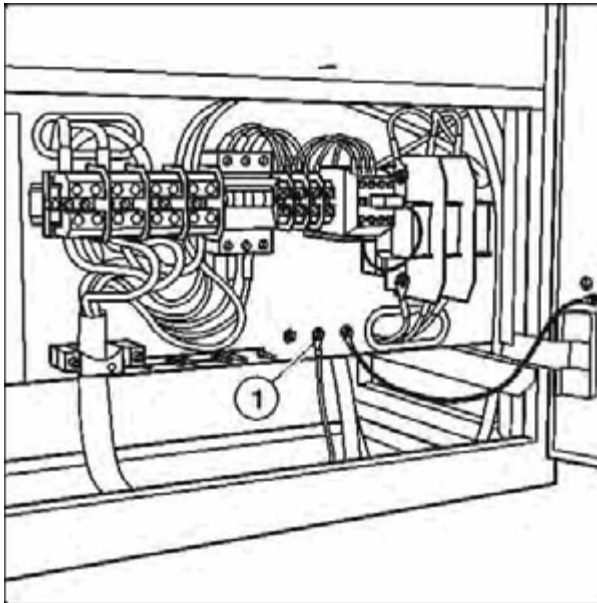

Fig. 53: Ground wire connection
- Connect the ground wires of the tube assembly in the system cabinet to the ground wire connection points (1/Fig. 53 / p. 47) in the generator on M16.